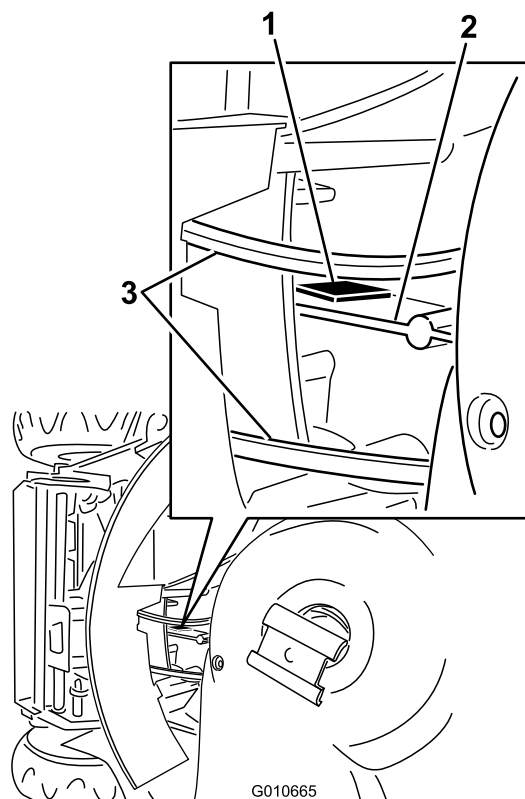

Figure 10
10. Remove most of the slack in the wire harness, and secure the wire harness with the adhesive tab (Figure 10).